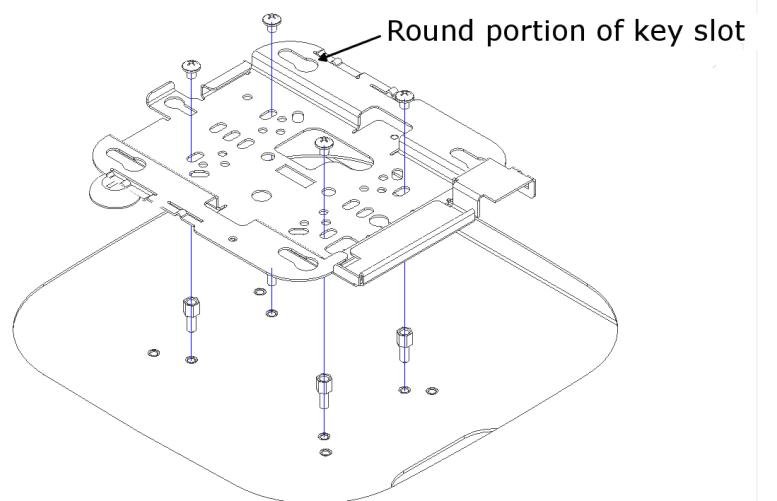

Figure 1 – Close-up showing proper orientation of the Cisco Bracket 2, refer to note for using standoffs
Step 1 – Turn the AP mount over so that the access point opening is facing upward. Install the Cisco mounting plate using four (4) #8-32 pan head screws. The mounting plate should be placed so that the round portions of the key slots are located away from the enclosure lock (reference *Figure 1*). The Cisco "BRACKET 2" should be used with all Cisco 1400, 1600, 2600, 2700, 3500, 3600, and 3700 Access Points.